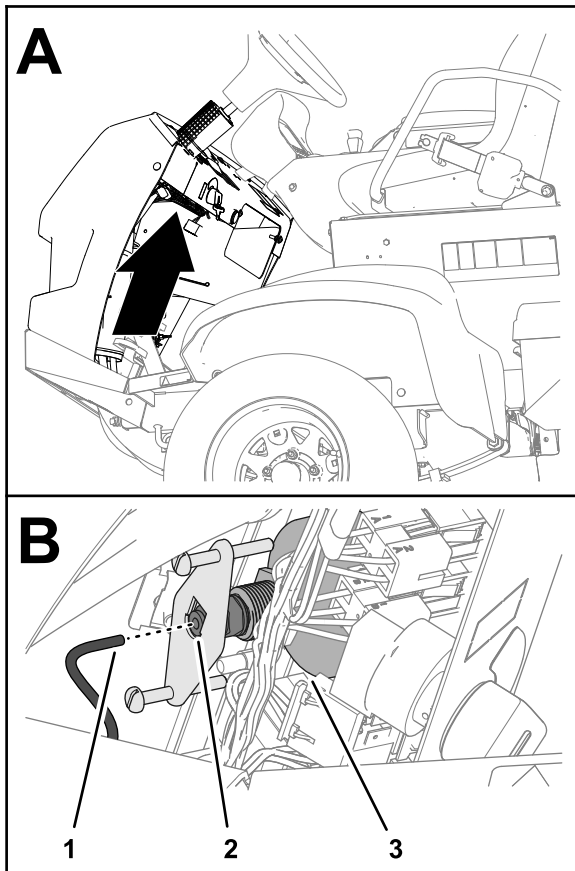

Figure 110
5. Remove the tube from the back of the pressure gauge and place the end of the tube into a container (Figure 110).